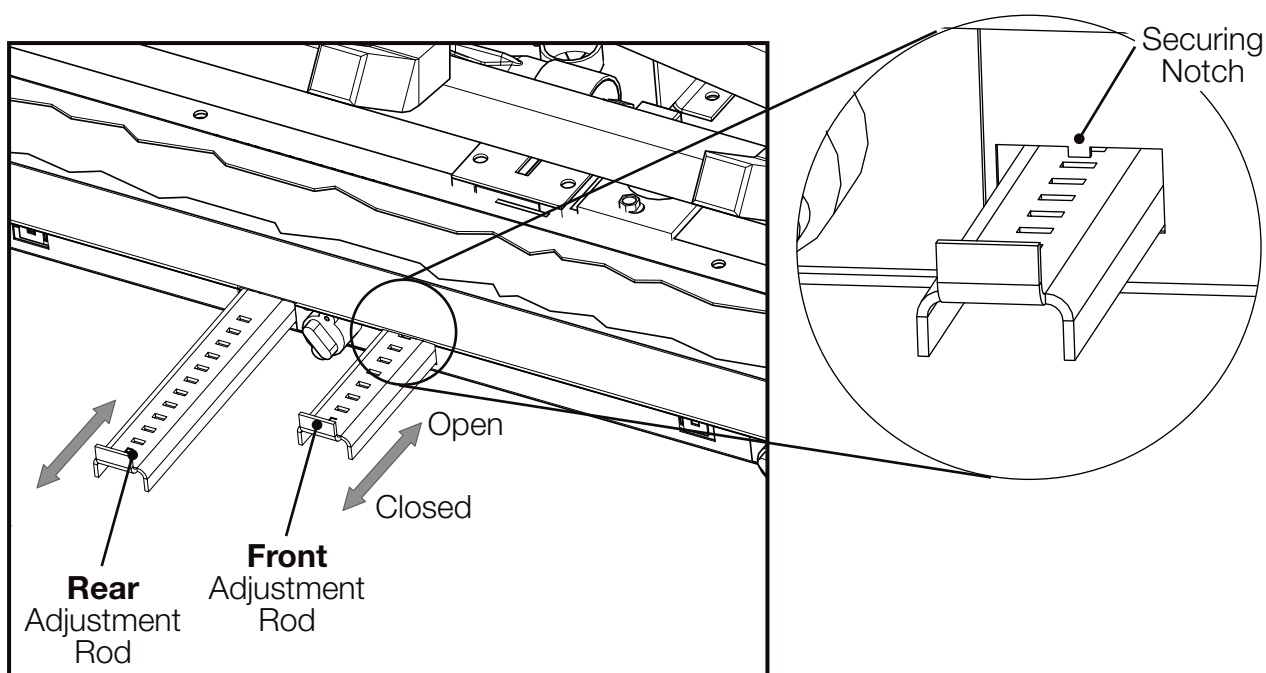

Fig. 1
Fine air adjustments should be made using the levers to achieve the desired flame (**FIG. 1**).
- A. Position the adjustment rod into the middle of the opening to disengage it from the securing notches (**Fig. 1**).
- Remove the 4 screws securing the log support assembly. Remove and set aside **(Fig. 1)**.